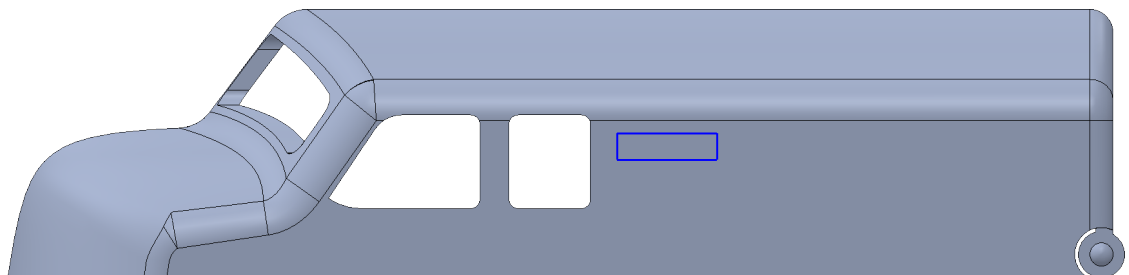

Fig. 68
Step 4. Sketch corner rectangle to rear of windows, Fig. 68.